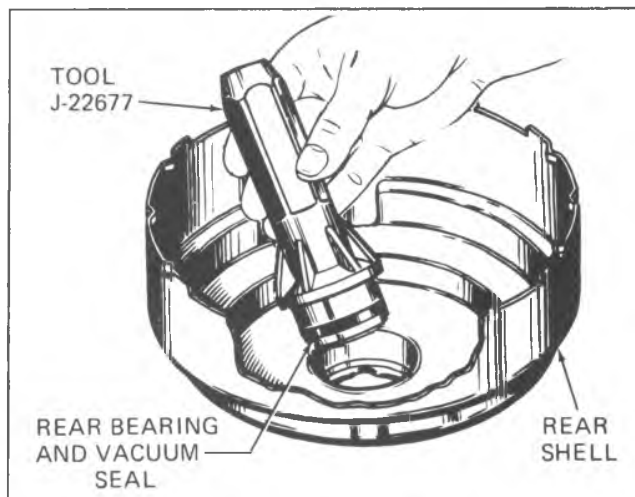

Fig. 5-8B—Installing Rear Bearing and Vacuum Seal
1. Press the new bearing and seal into the cavity in the rear housing using Tool J-22677 (fig. 5-8B). The flat rubber surface of the seal should be 5/16" below the flat, inside surface of the rear housing.